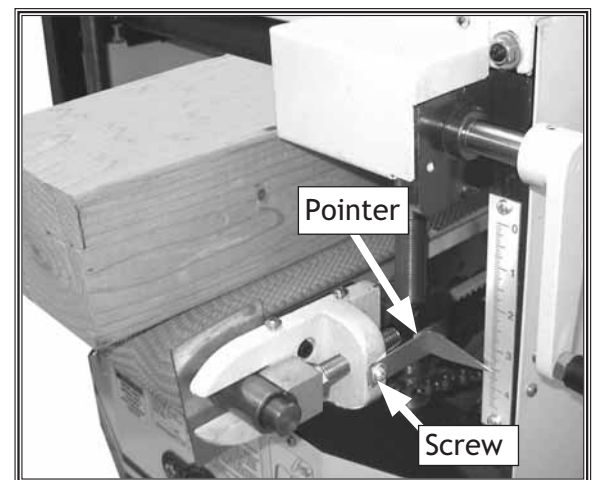

Figure 39. Pointer calibration.
1. Sand a workpiece (Figure 39) with the drum sander and measure the thickness of the sanded workpiece.